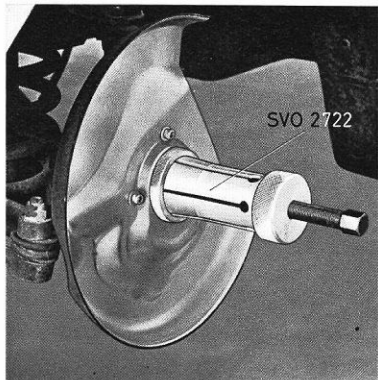
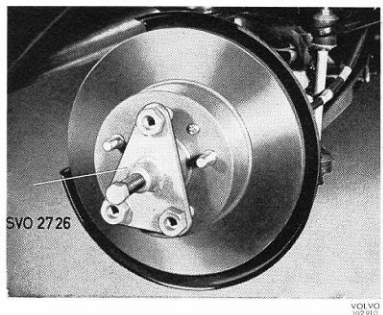

Fig. 6-20. Removing inner bearing
Fig. 6-19. Removing front wheel hub
2. Remove the grease cap with tool 2715. Remove the split pin and castle nut. Pull off the hub with puller 2726, see Fig. 6-19. Pull off the inner bearing for the steering knuckle with tool 2722, see Fig. 6-20.
1. Place the inner bearing in position in the hub and press in the sealing washer (1, Fig. 6-20) until it goes against the bearing outer ring. Use drift 5005 and standard handle 1801.
3. Press the sealing ring (2, Fig. 6-20) onto the steering knuckle without the tool until it bottoms. It is important that the ring is not fitted at an angle.